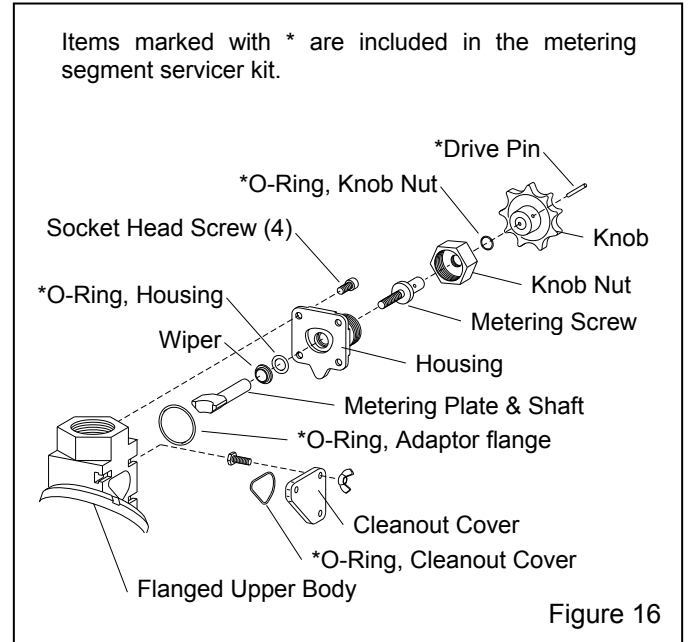

Figure 16
**6.6 Quantum Metering Assembly, Ref. Figure 16
6.6.14 Place a new o-ring and wiper seal in the housing, as shown in Figure 16. The small side of the wiper seal faces away from the o-ring. A generous amount of silicone-based lubricant eases installation.